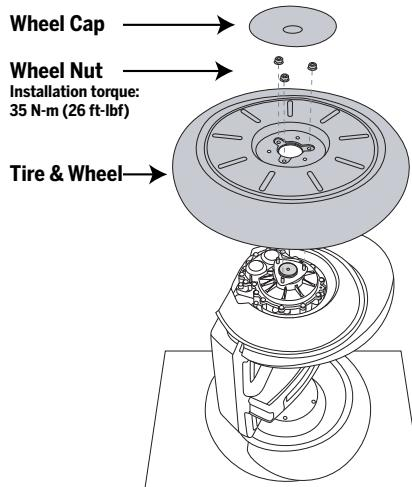
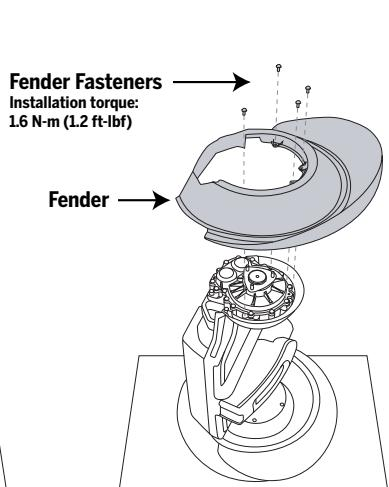

Figure 1. Removing or Installing the Tire & Wheel Assembly
Figure 2. Removing or Installing the Fender
2. Remove one Tire and Fender by tipping the Segway PT onto its side so the Wheel you want to remove is facing up and the other Wheel rests against a clean, smooth surface. See Figure 1.
4. Hold the Wheel to keep it from rotating and remove the (3) Wheel Nuts with a 13mm socket wrench. You will need the (3) Wheel nuts to re-install the wheel.
6. Using a T20 six-lobe wrench, remove the (4) fasteners which attach the Fender to the Gearbox and lift off the Fender. You will need the (4) fasteners to re-install the Fender. See Figure 2.
10. To replace the Fender, position the Fender so it aligns with the holes in the Gearbox. See Figure 2.
11. Thread the (4) fasteners through the Fender to the Gearbox. Using a T20 six-lobe wrench, torque to 1.6 N·m (1.2 ft-lbf).
12. To replace the Wheel, place the Tire & Wheel assembly over the (3) threaded posts. See Figure 1.
13. Hold the Wheel to prevent it from rotating and thread on the (3) Wheel Nuts. Using a 13mm socket wrench torque to 35 N·m (26 ft-lbf).